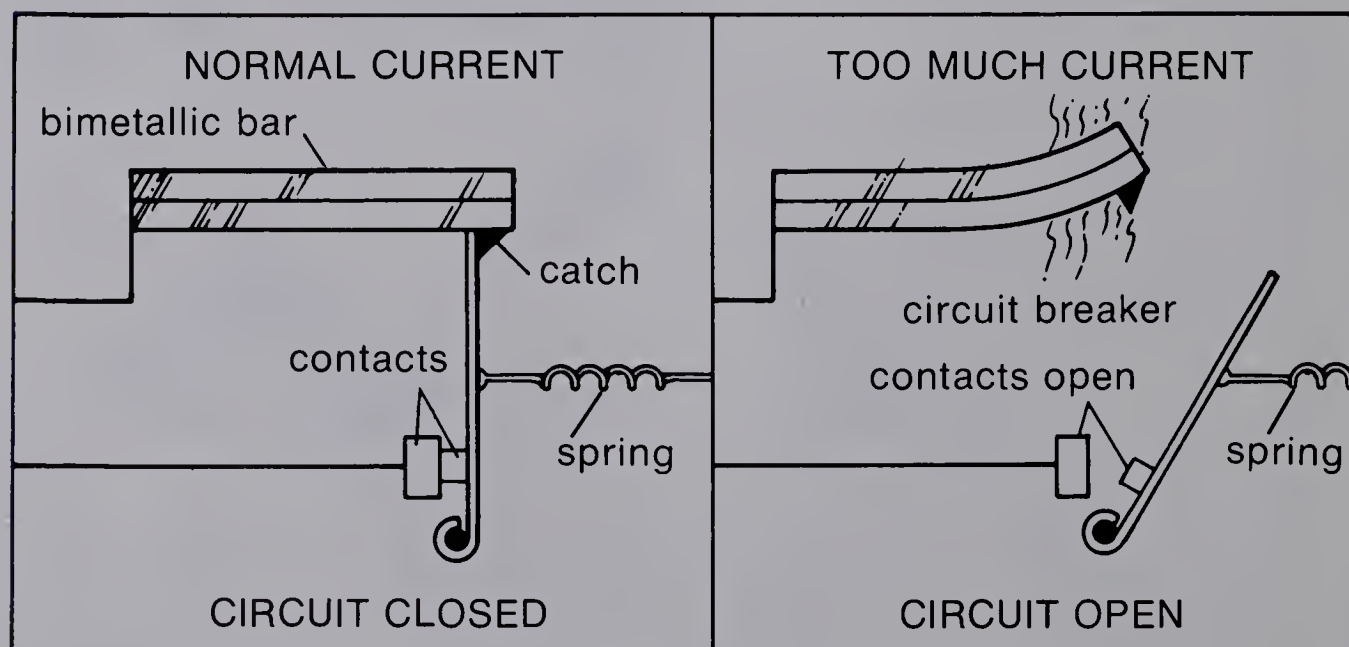

Figure 5-3
The "brain" of a circuit breaker is a bimetallic [by-ma-TAL-ik] strip. See Figure 5-3. Just like a fuse wire, this strip gets hot if there is too much current in it. But it does not melt.
- 5-9. Look at Figure 5-3. Then explain how the bimetallic strip breaks the circuit if there is too much current in it.